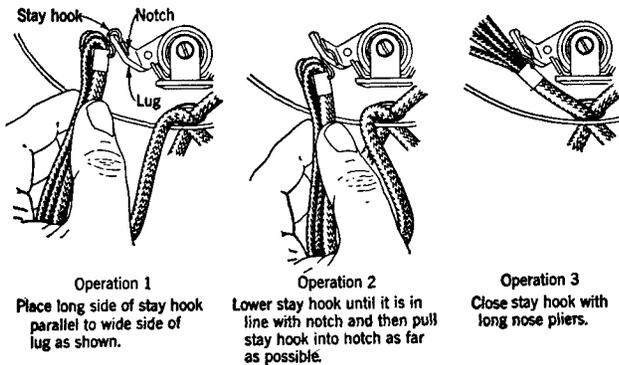

Fig. 1.
2.02 **Notched Lugs:** A convenient method for placing stay hooks on notched lugs is shown in Fig. 1.